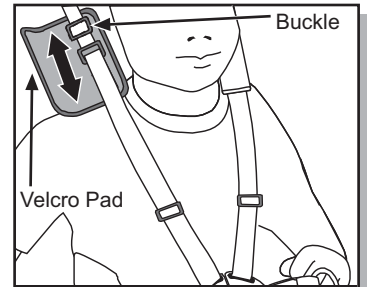

Fig. 19 Adjust Shoulder Straps.
- d. Adjust shoulder strap height. Adjust height of shoulder strap to fit just above child shoulder height (Fig. 19).
- e. Adjust shoulder strap. Open Velcro pads. Slide buckle up or down to adjust straps. Seat harness should fit snug and be comfortable (Fig. 19).